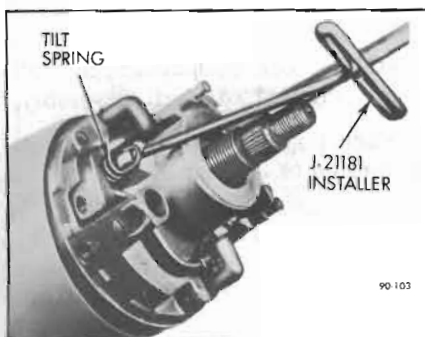

Figure 90-103—Installing Tilt Springs
9. Connect the upper ends of the tube tilt springs using Installer J-21181 (see Figure 90-103) to lobes on actuator.